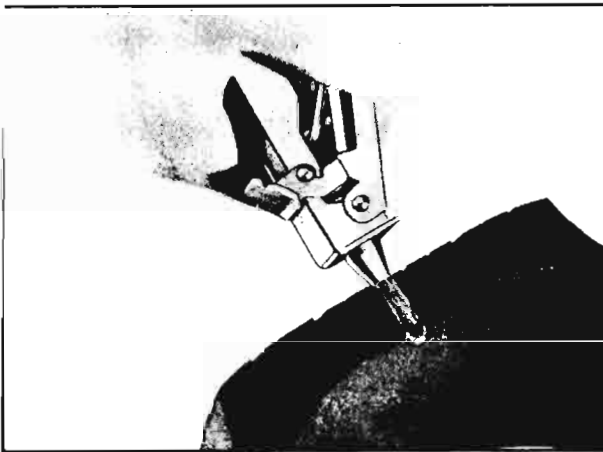

Fig. 3-45—Inserting Cement in Puncture
7. Press the nozzle of the plug-insertion tool firmly over the puncture hole and squeeze cement from cartridge until red spring on the tool stops the action (fig. 3-45). This deposits part of the cement. For repairs of punctures between narrow tread grooves, attach short extension tube.